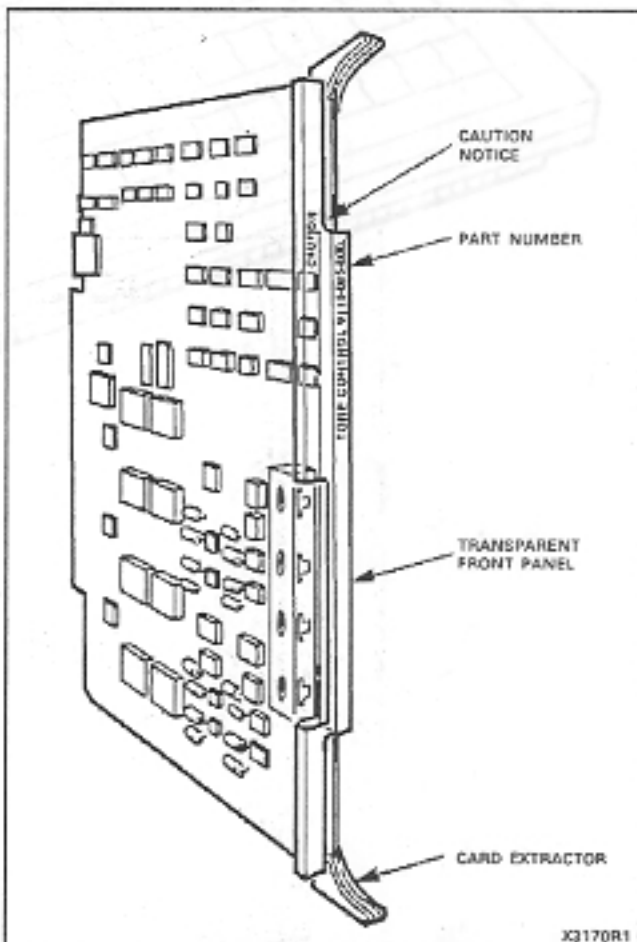

Fig. 2-6 Typical Printed Circuit Card
2.15 All circuit cards (Fig. 2-6) within the system are identical in construction and consist of a fiberglass board with printed wiring patterns on both of its faces. Riveted to the